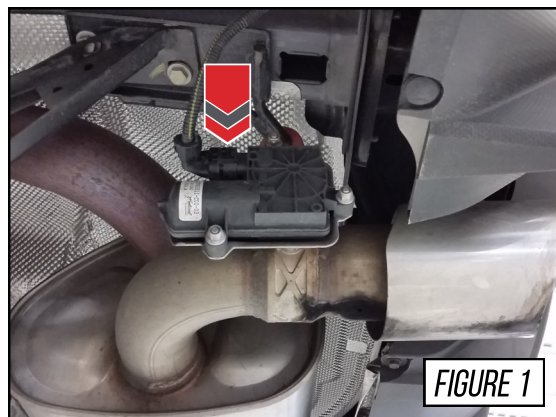

FIGURE 1
With engine off, unplug the wiring harnesses from the valve actuation motor, shown at the arrow in **Figure 1**.
**NOTE:** If the factory controller will be operating the exhaust valve on the AWE SwitchPath™ system; it will be necessary to swap the factory motor onto the new exhaust system, as shown in **Figure 1**.